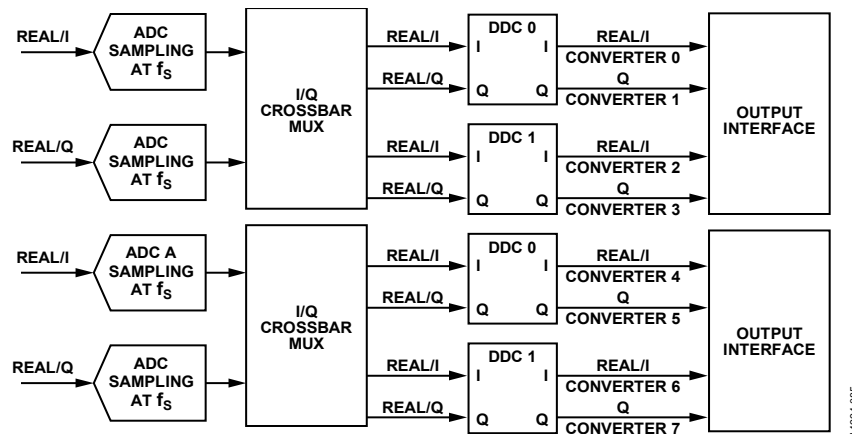

Figure 98. DDCs and Virtual Converter Mapping
The JESD204B Tx block for AD6684 supports up to four DDC blocks. Each DDC block outputs either two sample streams (I/Q) for the complex data components (real + imaginary), or one sample stream for real (I) data. The JESD204B interface can be configured to use up to eight virtual converters depending on the DDC configuration. Figure 98 shows the virtual converters and their relationship to the DDC outputs when complex outputs are used. Table 33 shows the virtual converter mapping for each chip operating mode when channel swapping is disabled.
If the internal DDCs are used for on-chip digital processing, M represents the number of virtual converters. The virtual converter mapping setup is shown in Figure 98.